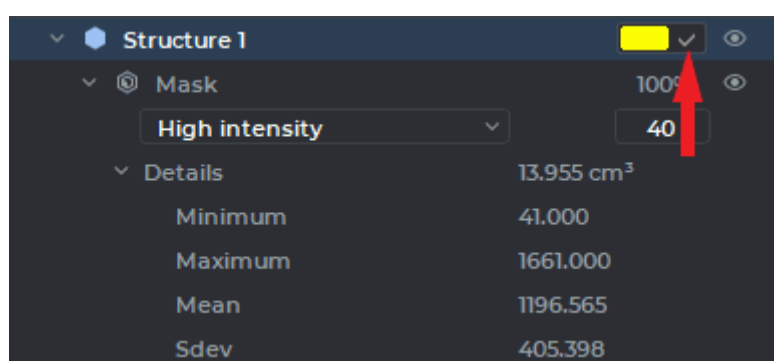

Figure 6.9: Custom color check box
1. To set the user's color, check the box in the line representing the structure (see the red arrow in Fig. 6.9). To change the color, click the colored rectangle in the line representing the structure and choose the color you need.